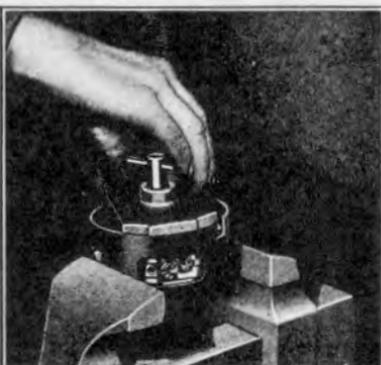

Fig. 494
- 965 After the new bushing has been installed it is necessary to line ream it (See Fig. 494).